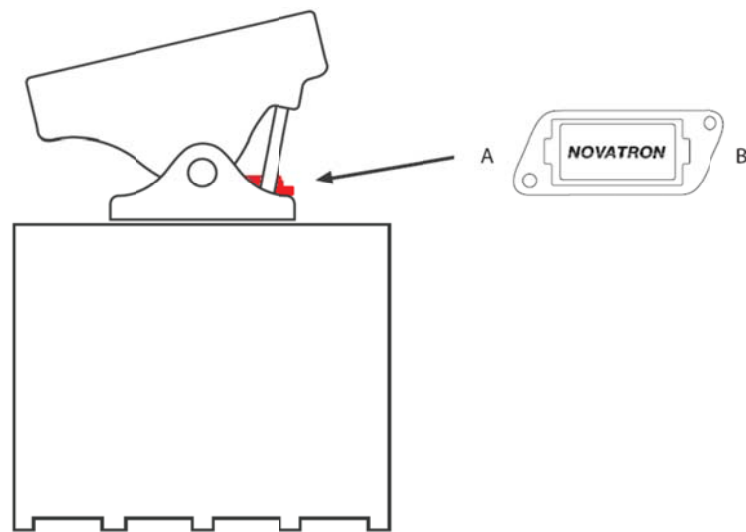

Figure 8. Tilt bucket sensor on a tilting quick coupler (mounting orientation B4)
- B4: on the top, measurement axis A pointing left when looking from the cabin (Figures 8 and 9)